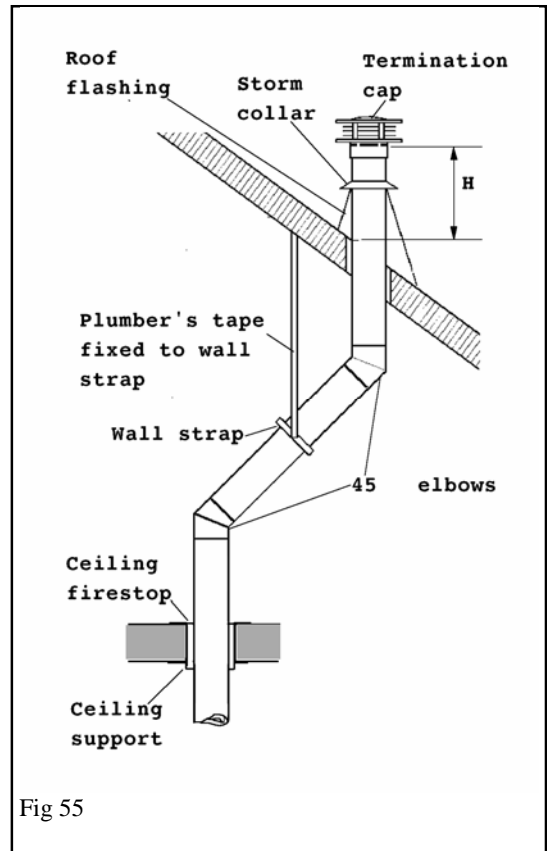

Fig 55
2. The distance from the roof to the lowest terminal discharge opening ("H" in fig. 55) depends on the roof pitch and must be in accordance with the current CAN/CGA-B149 in Canada or ANSI Z223.1 in the USA.
7. Determine the position where the vent will pass through the roof. If directly above the position where it penetrates the ceiling, drop a plumb from the roof to the small hole in the ceiling and mark the roof at this spot. If rafters or other obstructions will prevent a vertical exit or if clear attic space is desired, the roof outlet can be offset using 45° elbows - see fig. 55. Drill a small hole at the marked position.